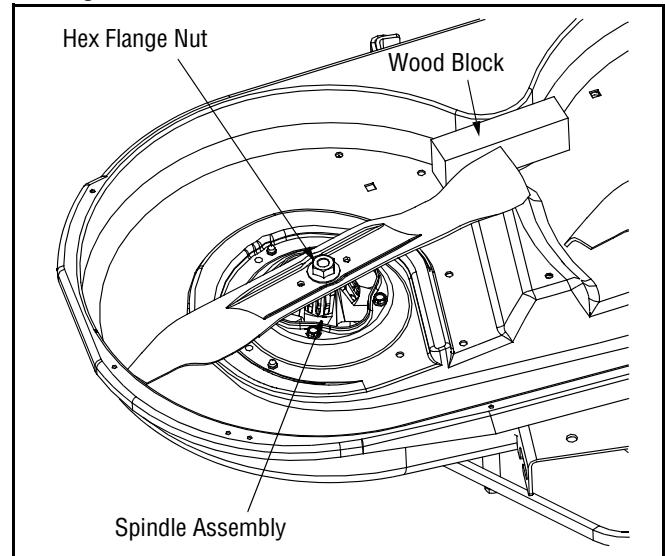

Figure 21
- When removing the blades, use a 1-1/8 inch wrench to hold the hex head of the spindle bolt when loosening the hex nut securing the blade. A block of wood may be placed between the deck housing and the cutting edge of the blade to aid in removal of the hex nut securing the blade. See Figure 21.
- Use a 1-1/8" wrench to remove the hex flange nut that secures the blade to the spindle assembly. See Figure 21.